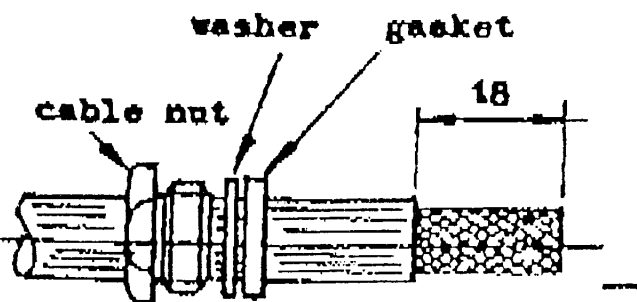

Figure 1
1. Slide cable nut, washer and gasket over cable and trim outer sheath to 18mm from end of cable as shown in Fig.1.